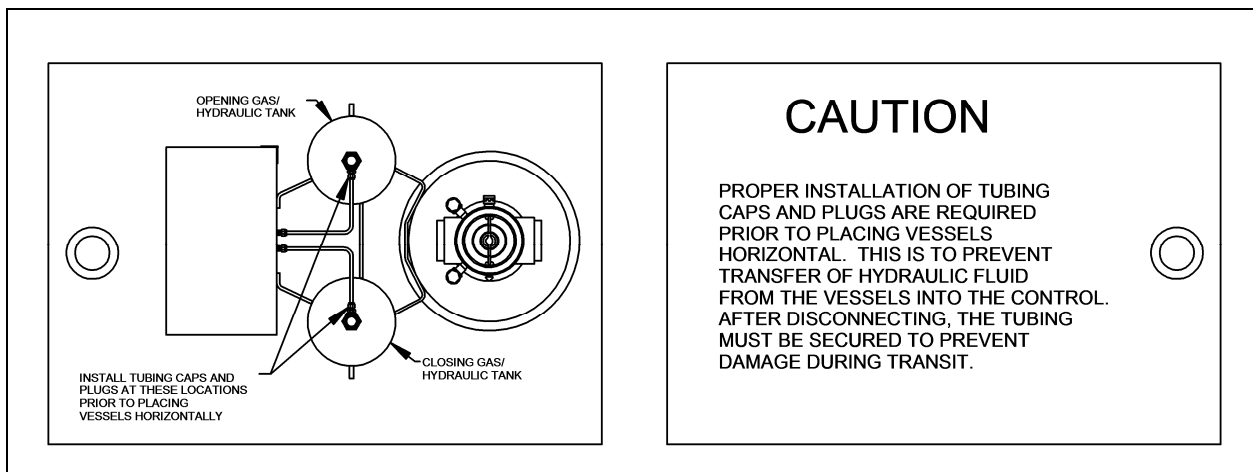

Figure 1: CAUTION Tag About Removing and Sealing Tube Lines
1. Before shipping, the tube lines running to the top of the Gas / Hydraulic Tanks were removed and the fittings were sealed with brass plugs and covers. This was to prevent oil loss and prevent contamination from entering the system. A yellow tag is provided and attached at the top of the Gas / Hydraulic Tanks (see Figure 1) to identify these tube runs.